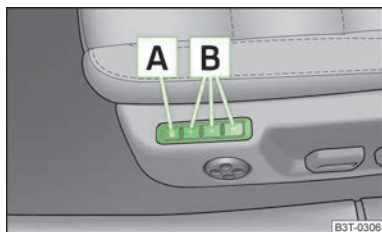

Fig. 55
The memory function for the driver's seat provides the option to store the individual positions of the driver's seat and the external mirrors. Each of the three memory buttons » Fig. 55 can be assigned a set position.
- › Press the button » Fig. 55.
- › Press the required memory button » Fig. 55.
- › Briefly press the desired memory button » Fig. 55.
- › Press and hold any memory button » Fig. 55 on page 68. After the seat has assumed the position stored under this button, at the same time press the button on the remote control key within 10 seconds.
- › Press and hold the button » Fig. 55 on page 68. At the same time, press the button on the remote control key within 10 seconds.